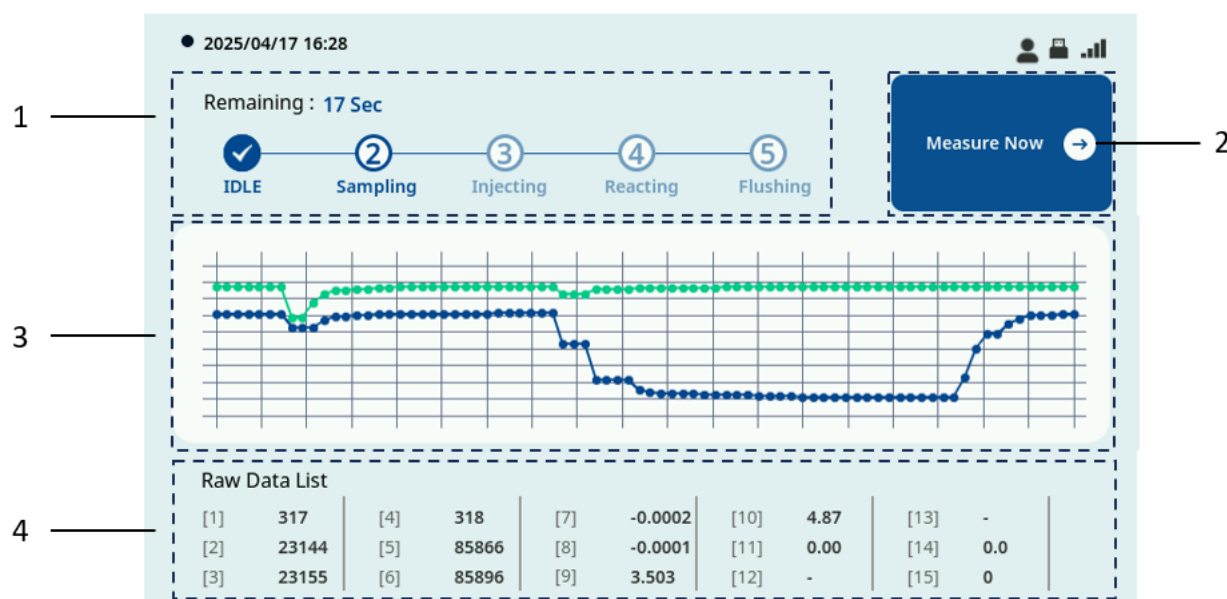

Figure 20
From the home screen, tap **Measure Now** button to start an immediate measurement, as shown in Figure 20. Waiting for a complete measurement cycle to finish.
4. **Start measurement:** From the home screen, tap **Measure Now** button to start an immediate measurement, as shown in Figure 20. Waiting for a complete measurement cycle to finish.